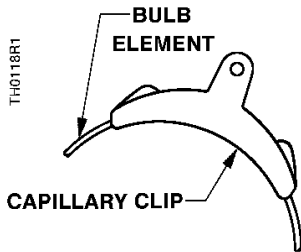
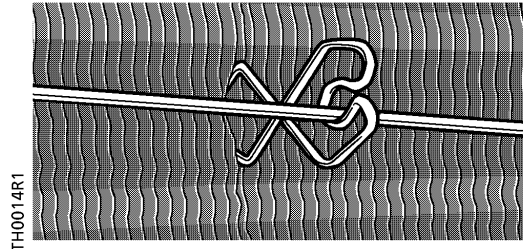
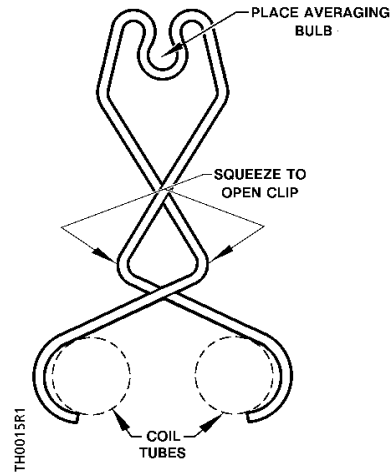

Figure 4. Capillary Clip Number 7421700060 (Pkg of 100).
Figure 5. Clip Mounted on Coil.
Figure 6. Coil Clip Number 356-115.
- When the bulb is mounted in a unit ventilator, use coil clip Number 356-115 to support the bulb in the air stream through the coil. See Figure 5 and Figure 6.
- Use a coil clip, Part Number 356-115 (Figures 6 and 7) or a capillary clip, Part Number 7421700060 (Figure 4), to support the bulb if there is easy access to the coil.